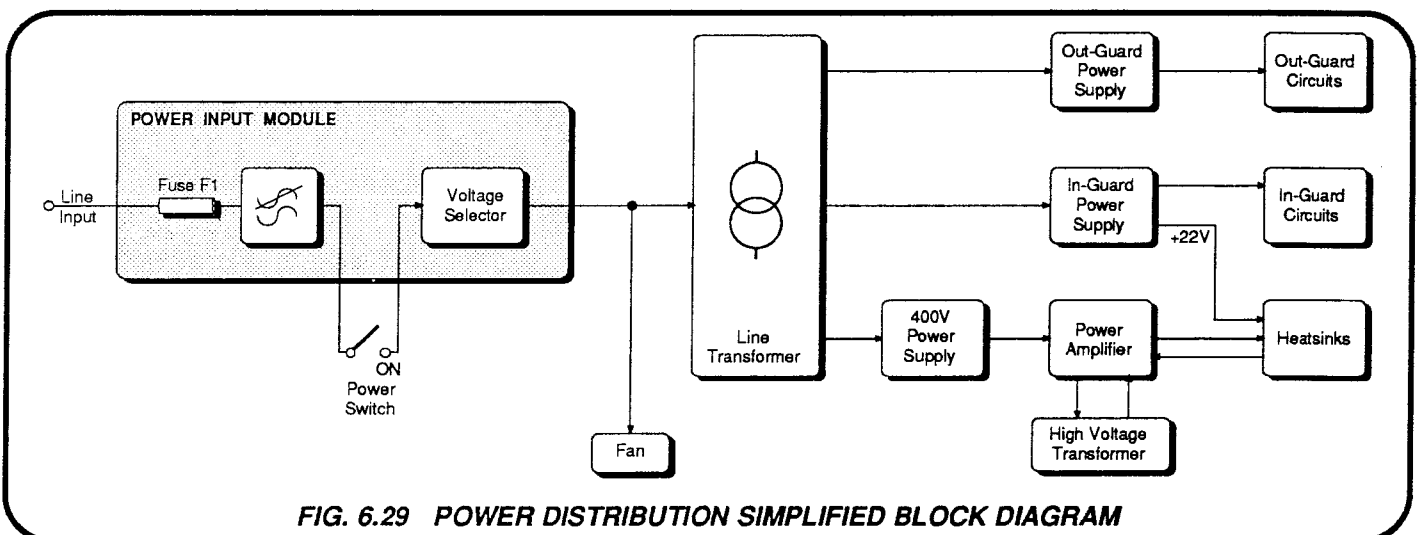

FIG. 6.29 POWER DISTRIBUTION SIMPLIFIED BLOCK DIAGRAM
A simplified power-distribution block diagram appears at *Fig. 6.29*.
6.7.1 LINE POWER DISTRIBUTION (*Fig.6.29*) (Circuit Diagram 430830 Page 11.17-2)